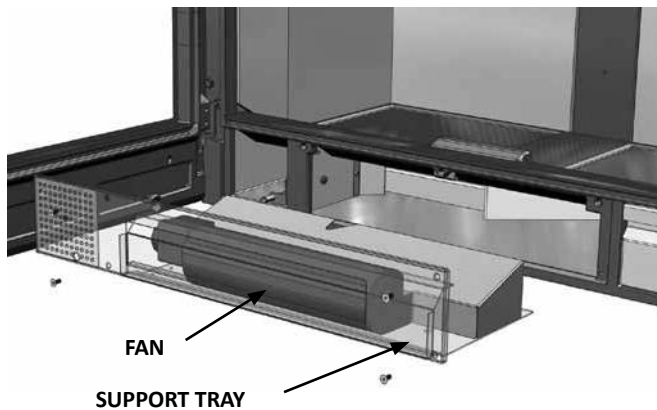

FIG. 2
2. Once the 4 screws have been loosened remove the fan support tray (Fig. 2). Be especially careful when removing the tray so as not to cut or damage the wiring.